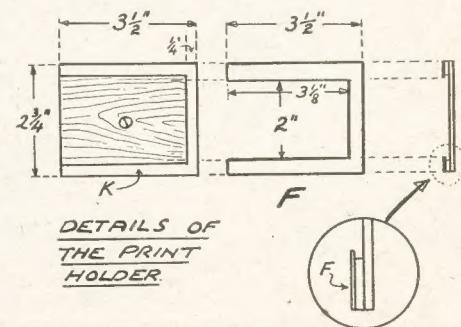

Fig. 3—Details of the holder parts
the end and top and bottom and then upon this gluing a piece of card cut as (F) Fig. 3. The inside measurements are $3\frac{1}{8}$ ins. by 2 ins.—a trifle narrower than the first card. This forms the lip as shown in the inset sketch.